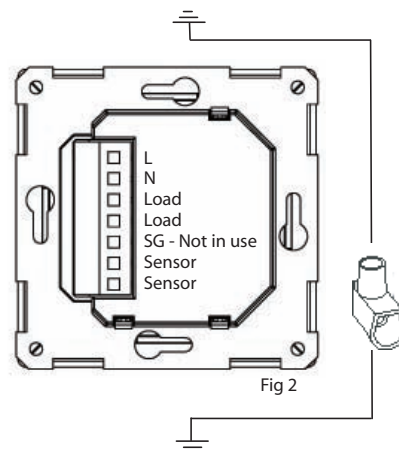

Fig 2
3. Connect power, voltage 230 VAC, load and floor sensor cable. Any extension of the floor sensor cable must be by means of high voltage current. Protective conductor for incoming feed and heating cable is connected with a connection clip in the box (Fig 2).